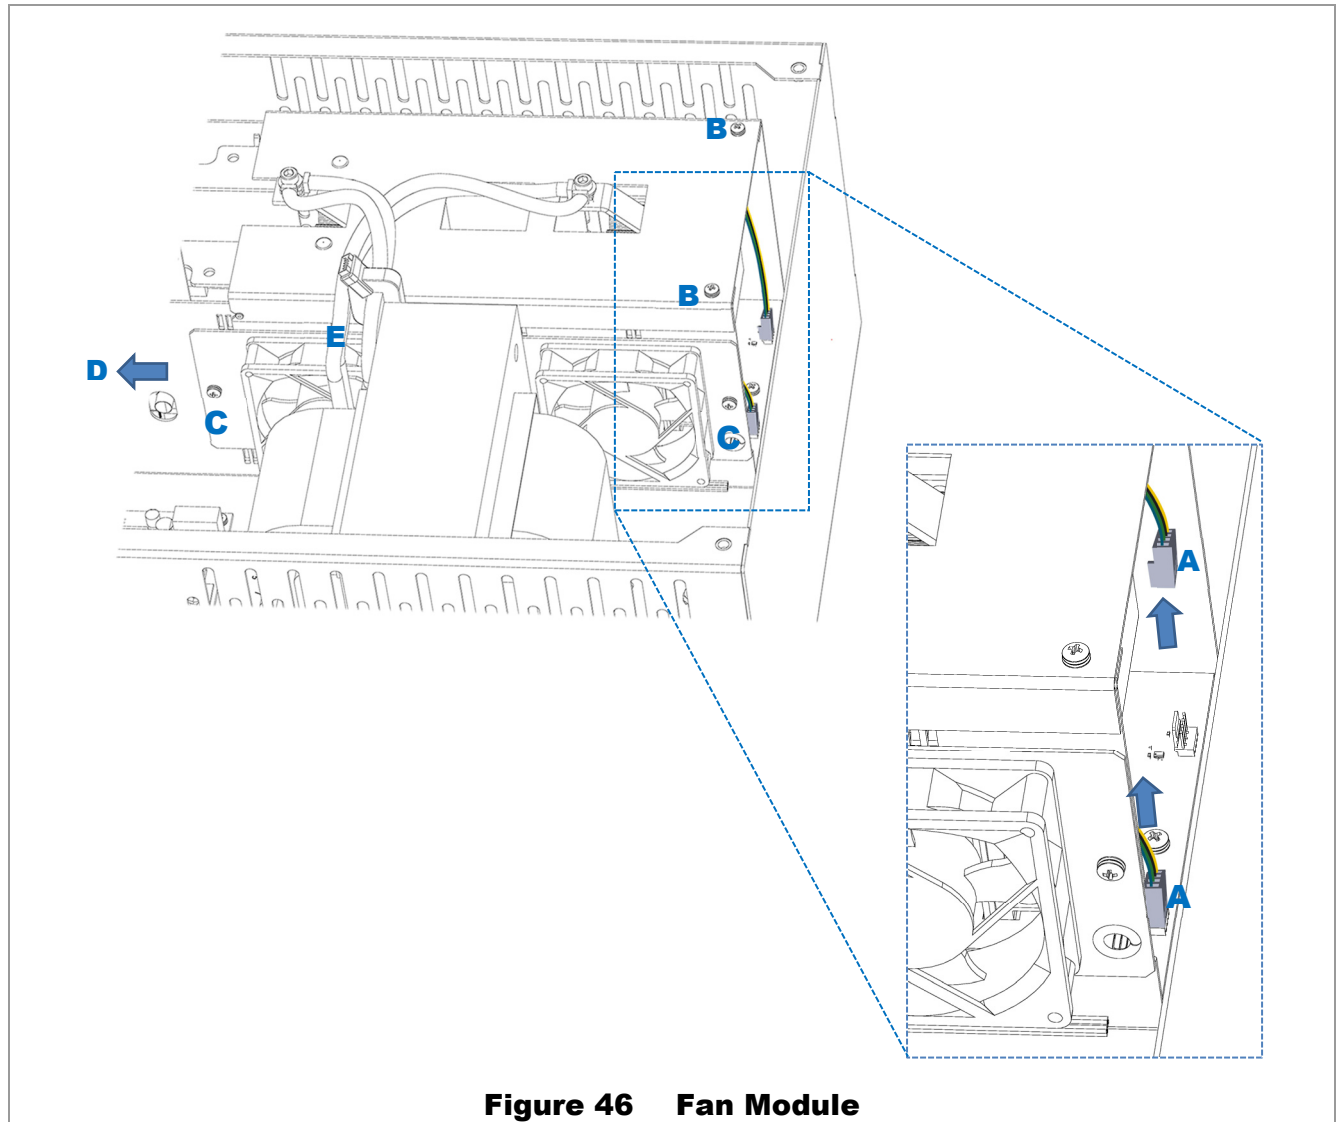
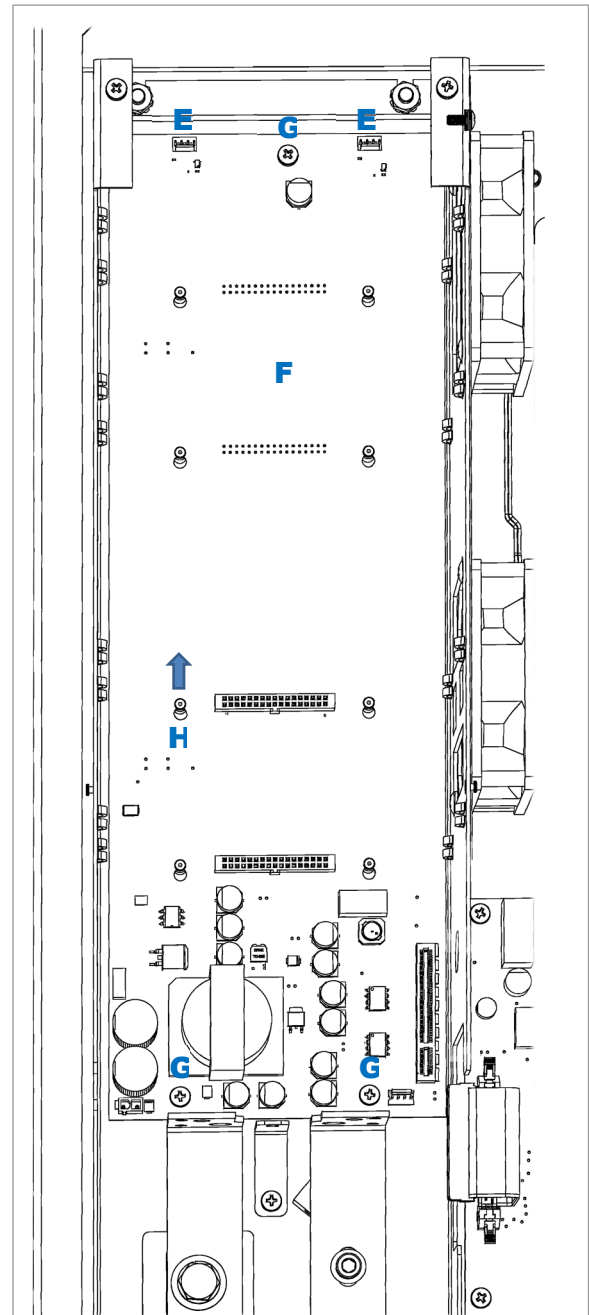

Figure 46 Fan Module
Figure 51 Carrier Board
1. Remove the two fan plugs at the top of the carrier board. See **A** in the Figure 46 inset. If necessary, loosen the power module cage cover at **B** to allow access to the plugs.
2. Using a #2 Phillips screwdriver, remove the two screws securing the fan module. See **C** in Figure 46.
3. Slide the fan module out of its slot in the direction indicated by **D** in Figure 46. Note that the module will have to slide under the transformer cables **E**, which have not been removed.
4. Replace the fan module. Perform all previous steps in reverse order. See Figure 46.
5. Remove the two fan plugs at the top of the carrier board **F**. See **E** in Figure 51. If necessary, see **A** in the Figure 46 inset.
6. Using a #2 Phillips screwdriver, remove the screws **G** at the top and bottom of the carrier board. See Figure 51.
- Replace the carrier board **I**. See Figure 51 for all items.